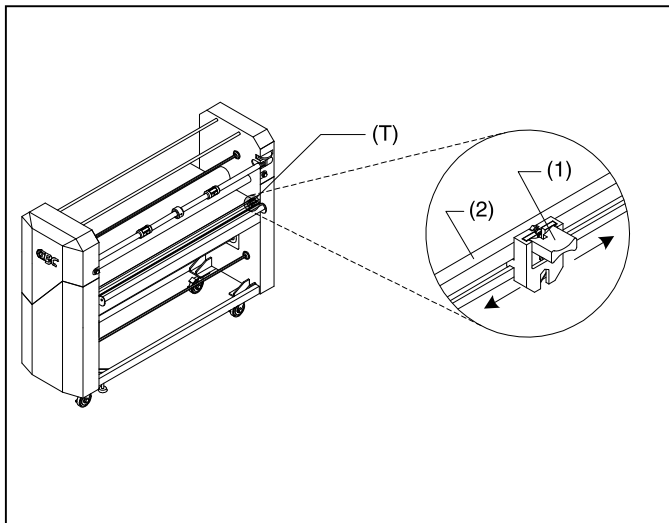

Fig. 18
**T. REAR SLITTER:** (Figure 18)